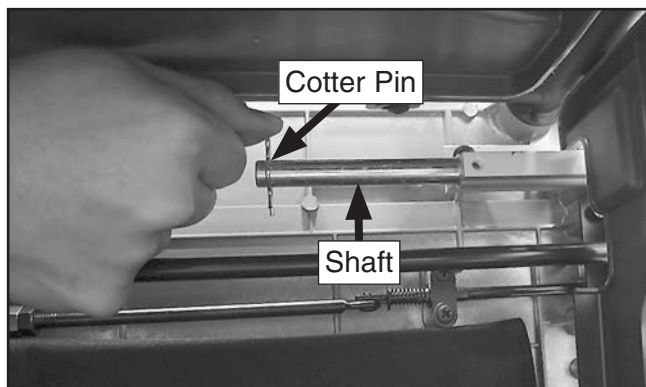

Figure 13. Installing cotter pin on one of two table extension shafts inside saw cabinet.
5. Tip saw on its side, then install (2) cotter pins, one in each table extension shaft, as shown in **Figure 13**.